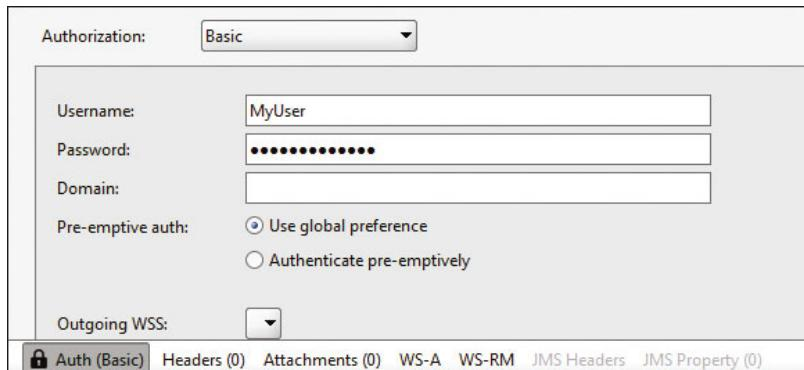

Figure 2.40 Specifying Username and Password to Enable the SOAP Client to Send Messages to SAP Cloud Platform Integration
4. Now you need to enable the SOAP client to authenticate itself against SAP Cloud Platform Integration based on your user credentials. In SoapUI, click **Auth (Basic)**, and enter your credentials in the next screen (see Figure 2.40). Refer also to Figure 2.16 for the assignment of the corresponding role `ESBMessaging.send` to the user associated with the sending SOAP client.